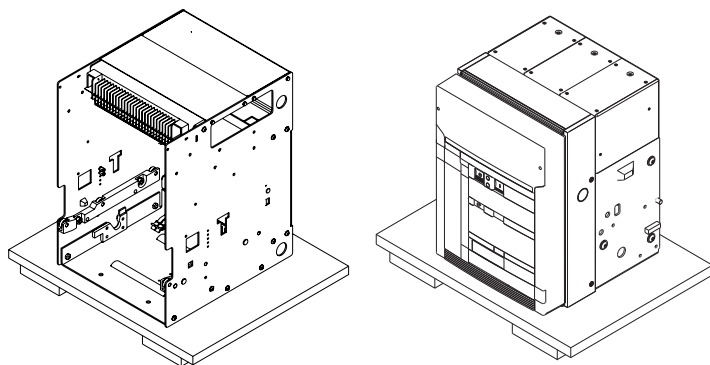

Fig. 5
- Position the circuit-breaker and any fixed part on a horizontal surface, not in direct contact with the floor, but on a suitable support surface (Fig. 5);